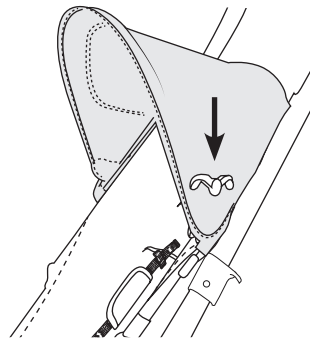

Fig. 4
- To open the canopy: Pull forward on the front edge of the canopy until fully opened. To lock canopy position lift canopy lock downward on both sides (Fig. 4)